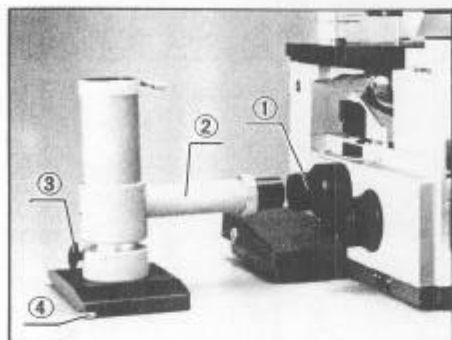

Fig. 41
Mount the multi-photo tube to the MTU light exit port; then clamp the photomicrographic attachment on it. (Fig. 41)
1) Unscrew the photo adapter mounted on the MTU port and replace it with the MTU adapter ①. (Fig. 41)
2) Insert the MTU relay tube ② into the MTU adapter ① and clamp. (Fig. 41)
3) Loosen the base clamping screw ③, and place the base on the desk. (Fig. 41)
4) Rotate the 4 leveling screws ④ to keep them in contact with the desk surface. (Fig. 41)
5) Clamp the base clamping knob ③. (Fig. 41)